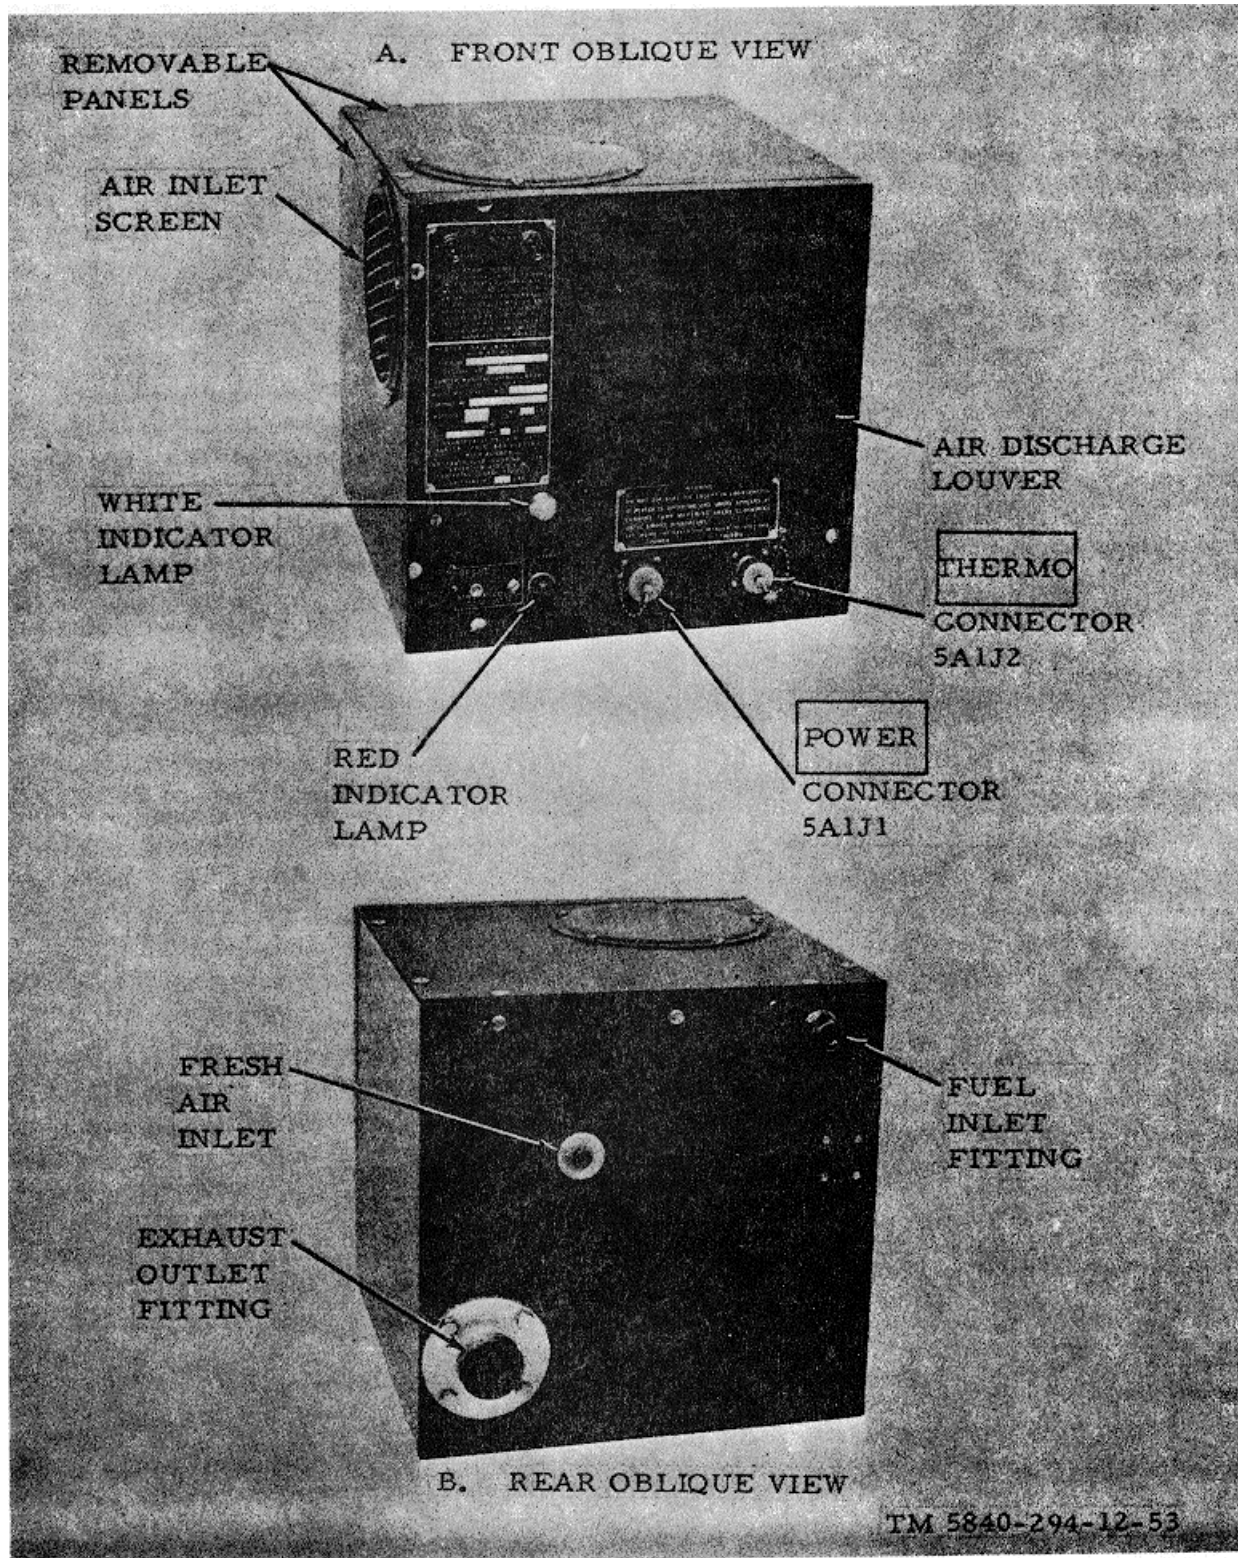

Figure 1-19. Heater, Hunter model UH-48, type II (heater A).
a. Heater A (fig. 1-19). Heater A is a multifuel-burning, forced hot air-type heater with an output capacity of 15,000 btu per hour. It operates on any grade of gasoline and requires 123-volt ac, 400-cps electrical power.
- (1) The heater metal case includes two removable panels (A, fig. 1-19), one at the top and one at the left side. The left side panel contains an air inlet screen to receive circulating air. The heater front panel includes an air discharge louver, a fuse, controls, indicators, and electrical connectors. The air discharge louver can be pulled out and repositioned to direct the heated air in a vertical or horizontal direction. Electrical power is applied to the POWER connector. An external heater thermostat (fig. 1-8) connects to THERMO connector 5A1J2.
- (2) Fuel is supplied to the heater through the fuel inlet fitting at the rear of the heater (B, fig. 1-19). Heater fumes are discharged through the exhaust outlet fitting. A fresh air inlet is also located at the rear of the heater. Mounting facilities for the heater include four receptacles at the bottom corners of the heater.